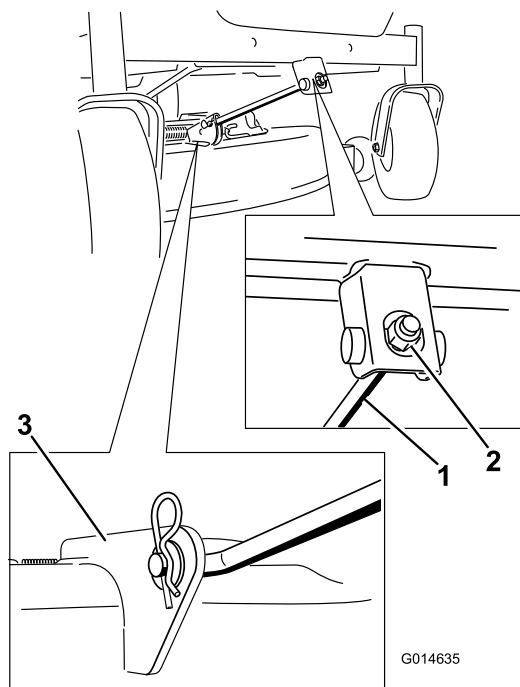

Figure 57
- Remove the hairpin cotter from the front support rod and remove the rod from the deck bracket (Figure 57). Carefully lower the front of the mower deck to the ground.
6. Attach the front support rod to the mower deck with the clevis pin and hairpin cotter (Figure 57).